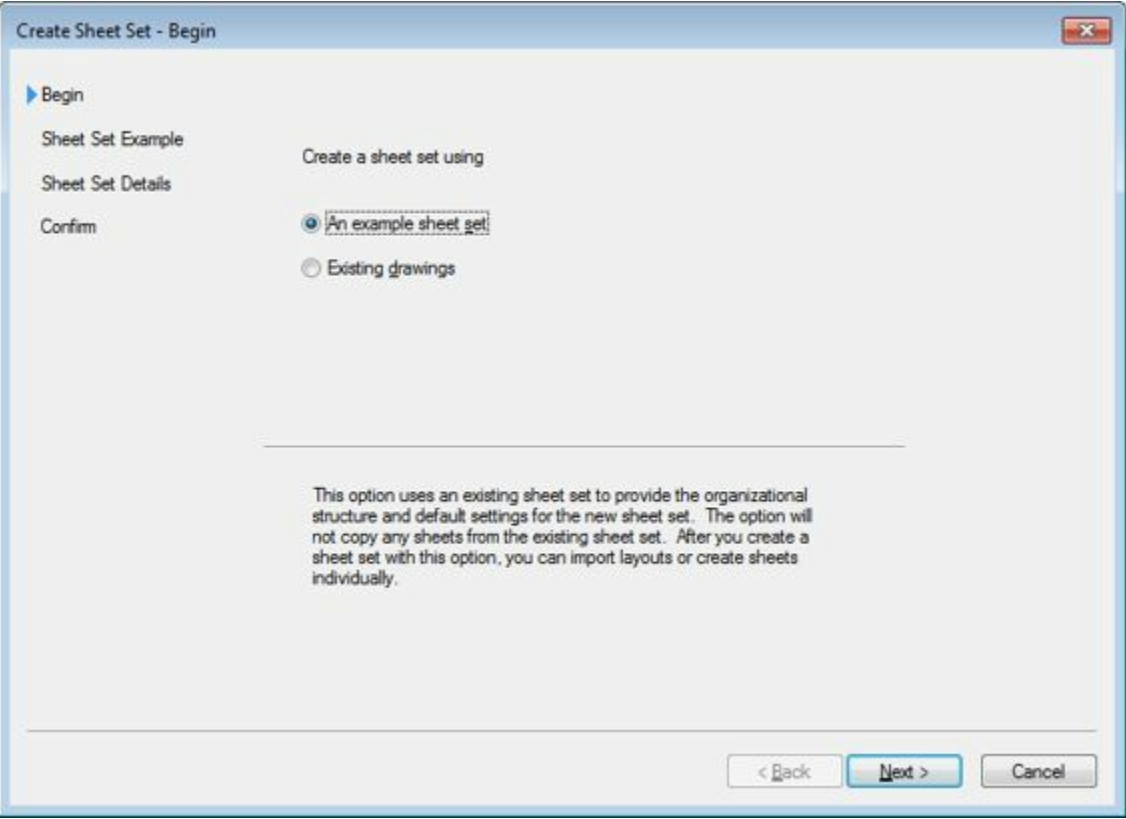

Figure-20. Begins page Create Sheet Set dialog box
- Click on the **Sheet Set** option from the **New** options in the **Application Menu**. The **Begin** page of **Create Sheet Set** dialog box will be displayed; refer to Figure-20.